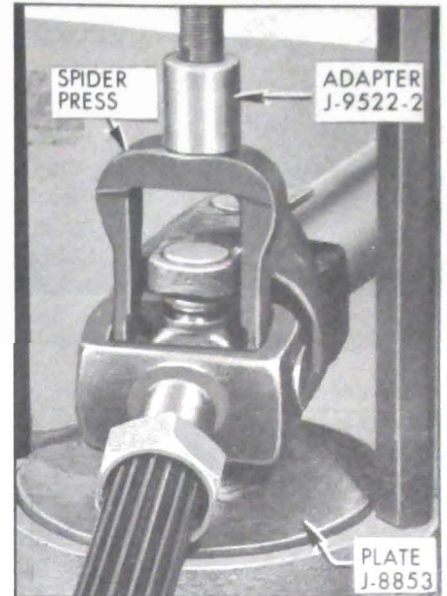

Figure 6-53—Pressing Out Bearing
PELLER shaft bearings. With this use Axle Bearing and Retainer Replacer J-8853 as a base plate. Attach Adapter J-9522-2 onto the ram screw. See Figure 6-53.
3. Position propeller shaft constant velocity joint into the fixture as set up in Step 2 with the link yoke bearing over the hole in J-8853 Replacer. Install Spider Press J-9522-3 on spider. See Figure 6-53. The notches in the spider press are offset so that this press can be positioned on